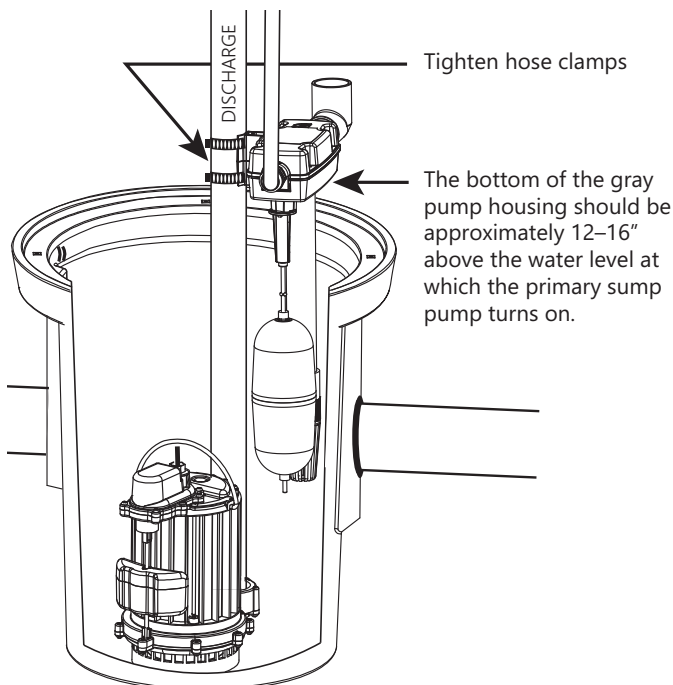

Figure 2. SumpJet Placement
- Using the hose clamps provided, mount the SumpJet to the existing discharge pipe. Place the unit so the float level will operate a few inches above the turn-on level of the primary sump pump. (Refer to Figure 2). Tighten hose clamps on discharge pipe.